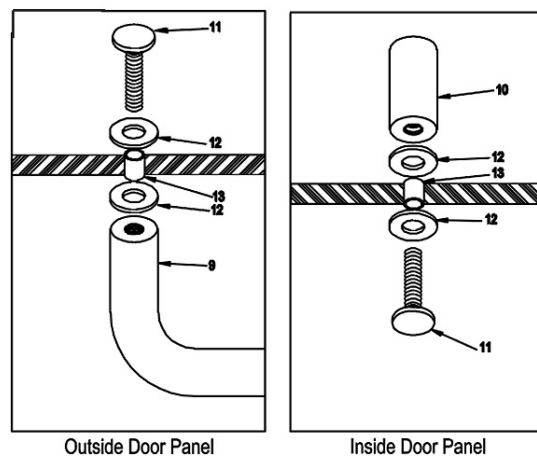

FIGURE 3
11. To set slider glass in place, hold inside slider panel (16) inside of tub or shower pan, insert rollers up into header and lower into place. The inside slider glass has only one hole for the inside pull handle (10) and will close against the wall jamb on the shower head side. Next, insert lower end of outside slider (17) in front of slider by pushing lower ends far enough in, to allow clearance on inside edge of tub or pan. Avoid roller bracket to roller bracket contact while lifting panel into place. The outside slider will close against the jamb opposite the shower head.
12. Place center guide (7) to center position on sill (6). Make sure the center guide is hooked into the slot position on the sill then snap center guide to sill.
14. Install bumpers (4) to the jambs and corner post with 6-32 x 1/2" screw (5). NOTE: Glass panels close into the recessed portion of bumpers (4). The recess is toward the inside of the tub on the shower head jamb and toward the outside on the corner post.
15. To install towel bar (9), place nylon towel bar insert sleeves (13) into holes in the glass (17). Next hold the tubular towel bar (9) against the hole in the glass with the nylon towel bar/pull washer (12) between the glass and the towel bar. Place a nylon towel bar/pull washer on the towel bar/pull screw (11) and secure towel bar in place on both ends. Install the pull the same way to towel bar was installed. Use hole in fastener to tighten (See Figure 3).